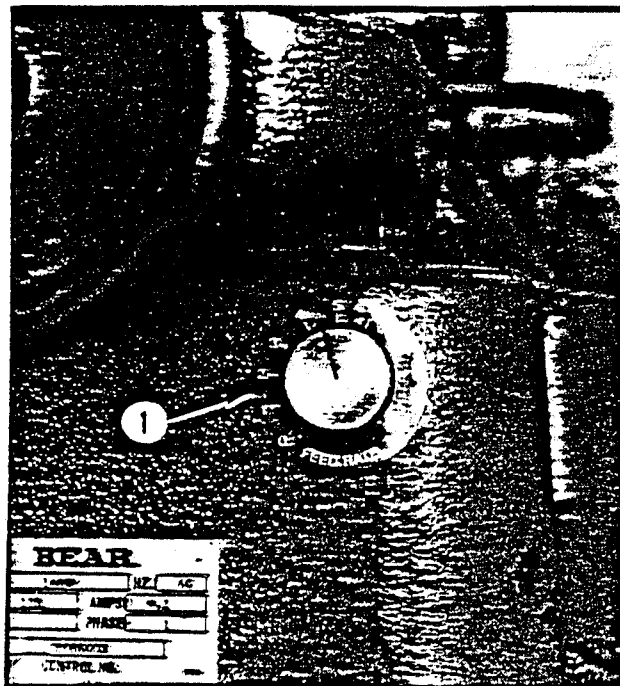

Figure 20. V.S.F. Control
2. Set variable speed control to get desired finish of cut. Use higher speeds for rough cuts - lower speeds for finer cuts. See Figure 20.